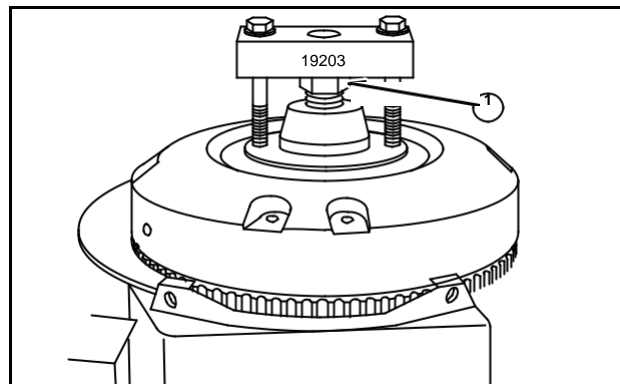

Fig. 10
5. Use flywheel nut (1) to protect crankshaft threads and for puller to bear on, Fig. 10.